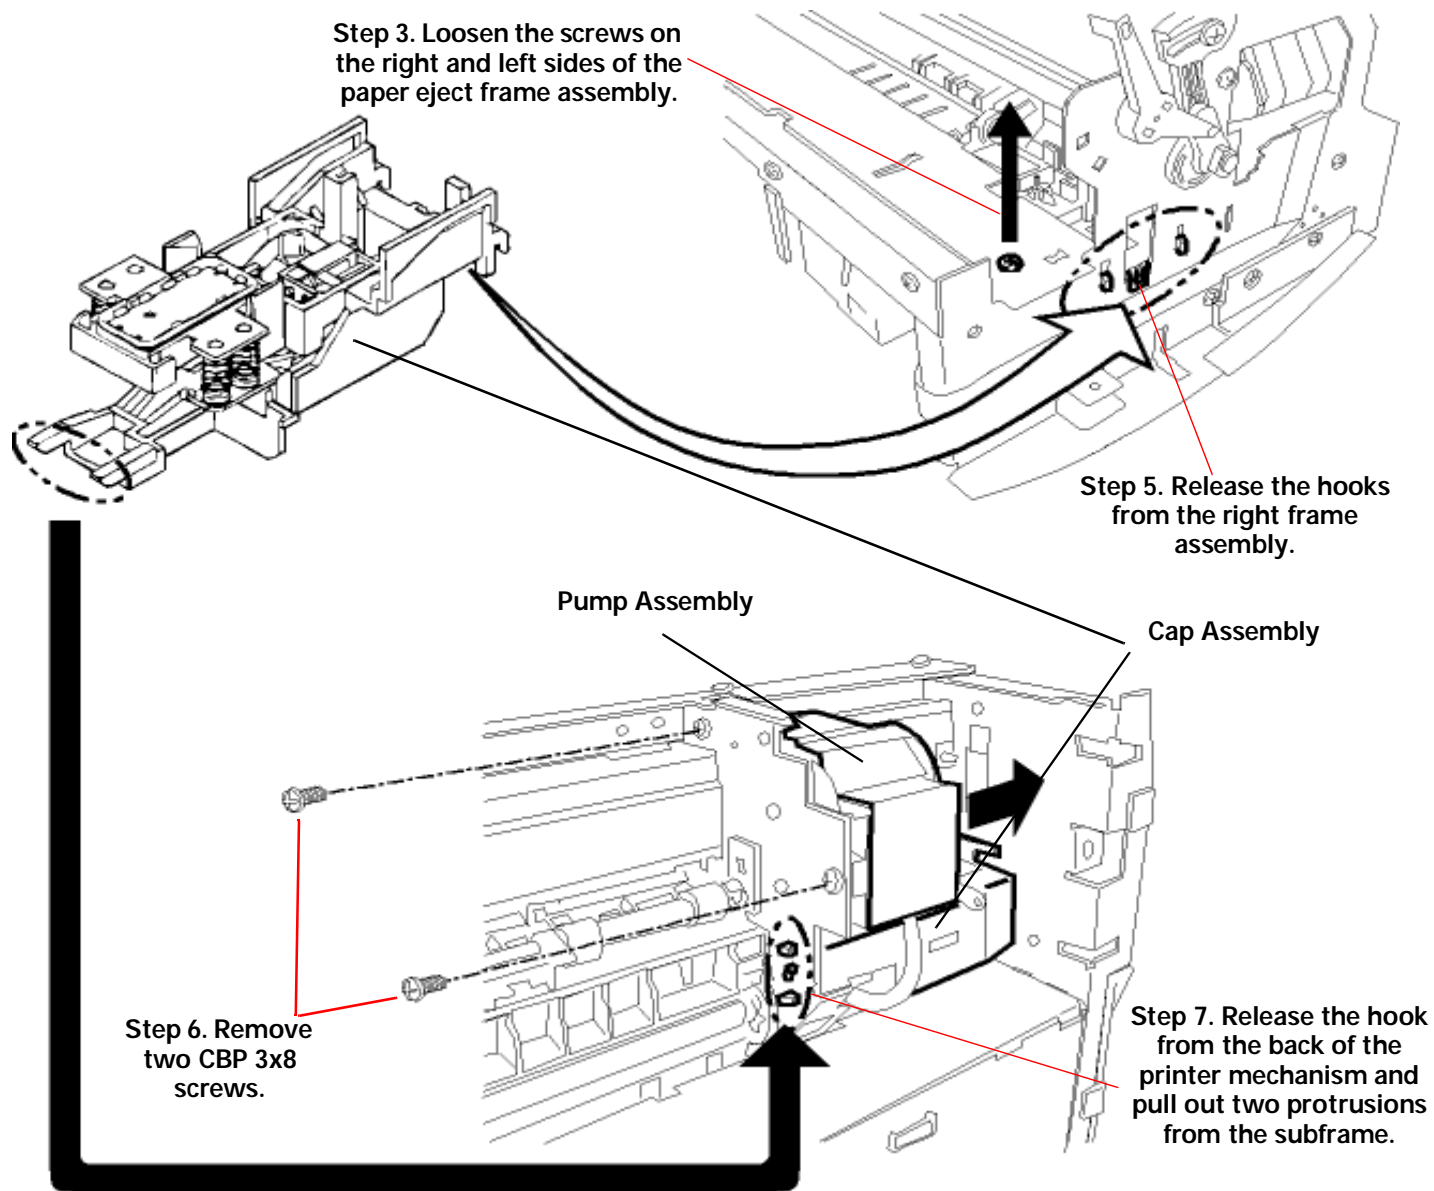

Figure 4-2. Removing the Cap and Pump Assemblies
5. On the right side of frame, remove the hook holding the cap assembly and release two protrusions attached to the frame, lifting up the right side of cap assembly, then take it out towards the bottom of the printer mechanism. Note that the cap assembly is still connected to the pump assembly by the ink tube at this point. (Refer to Figure 4-2 on the next page.)
6. Remove two screws (CBP 3x8) securing the pump assembly to the frame. (Refer to Figure 4-2 on the next page.)
7. Release a hook securing the pump assembly to the frame and remove the pump assembly, moving it toward the right. (Refer to Figure 4-2 on the next page.)